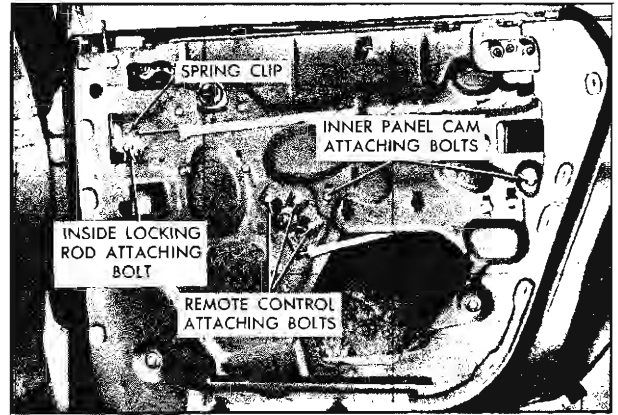

Fig. 3-41 Inner Panel Cam
1. Raise door window. Remove door trim assembly and detach inner panel water deflector sufficiently to expose inner panel cam attaching bolts (Fig. 3-41).
5. Disengage rod from spring clip on door inner panel. Remove inside locking rod assembly attaching bolt and remove assembly from door (Fig. 3-41).
2. Remove remote control attaching bolts and remove remote control from connecting rod (Fig. 3-41).